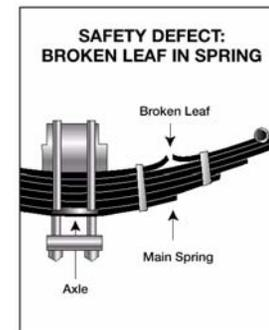

FIGURE 2.3
- Missing or broken leaves in any leaf spring. If one-fourth or more are missing, it will put the vehicle "out of service", but any defect could be dangerous. See Figure 2.3.